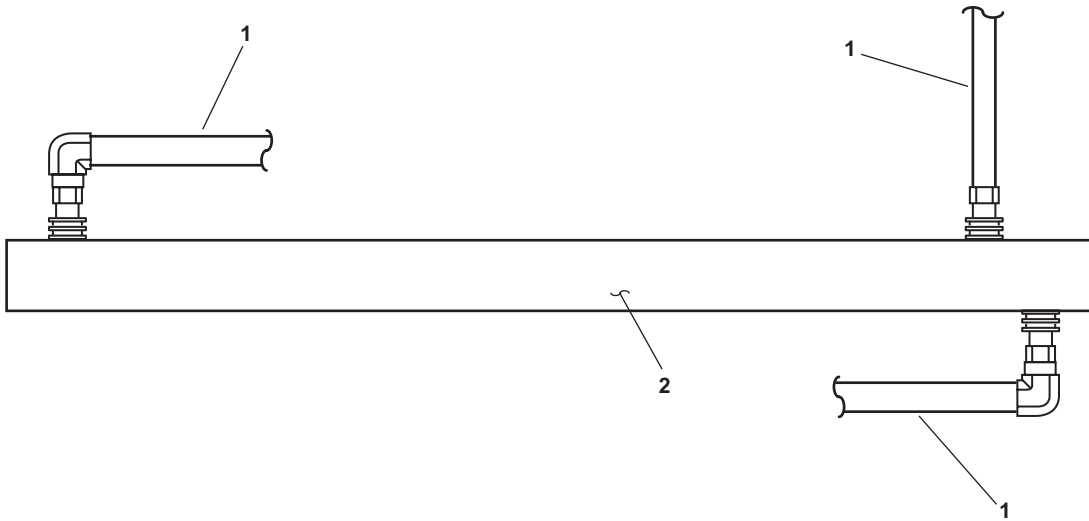

Figure 1. Reverse Osmosis Membrane and Vessel Subassembly
3. Label and disconnect all hoses (figure 1, item 1) from the applicable membrane and vessel subassembly (figure 1, item 2).
2. Install the hoses (figure 1, item 1) on the applicable membrane and vessel subassembly (figure 1, item 2) using the labels from step 3 of Removal as a guide. Tighten finger tight plus one $\frac{1}{4}$ turn. Discard the labels.